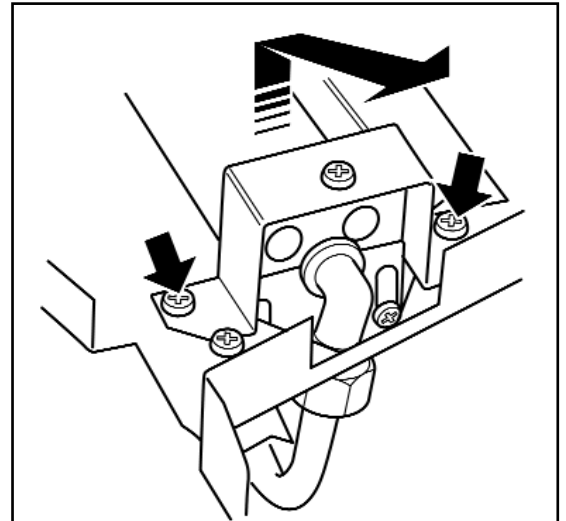

Figure 41. Removal of burner
(See figure 41).
3. Remove the two screws from the burner clamping plate (See figure 41)